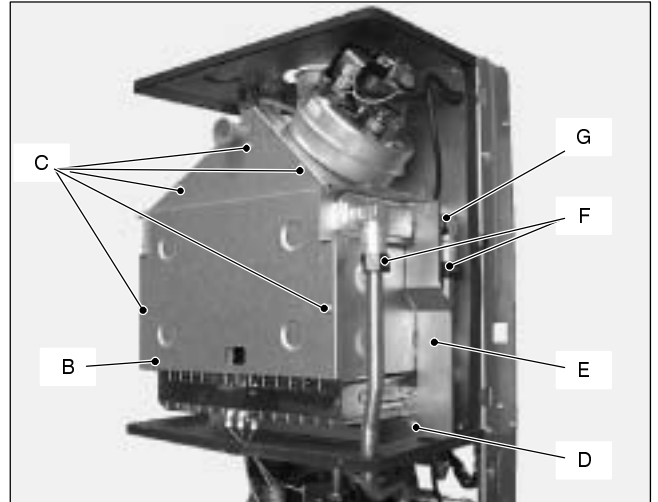

Fig. 11
- 3 Remove the combustion chamber lid *B* by unscrewing the screws *C* (Fig. 11).